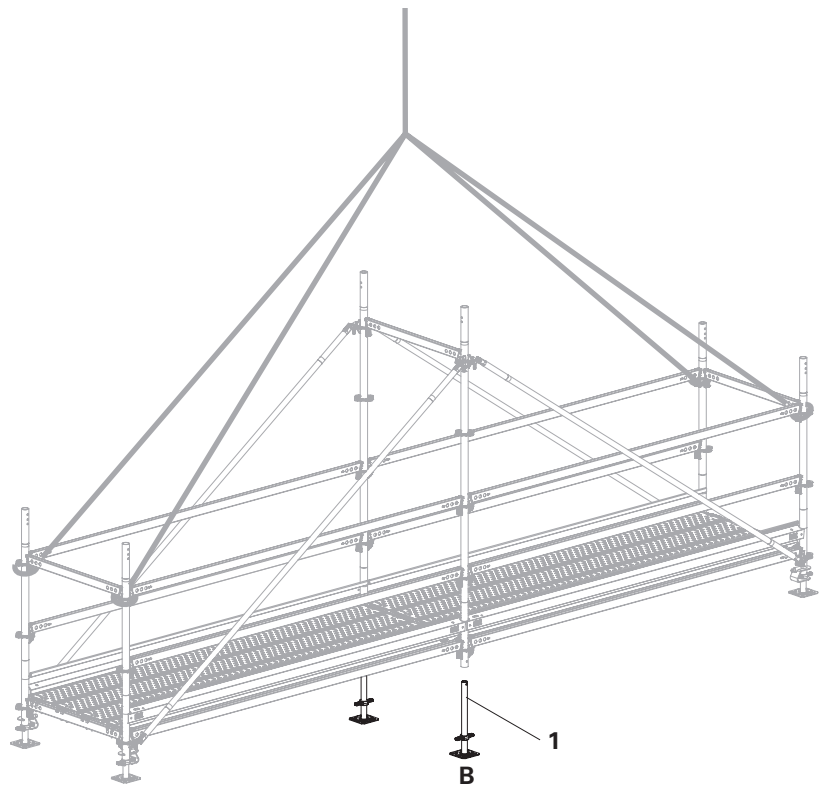

Fig. A2.03
2. Check that the base spindles **(1)** of the centre frame columns **(B)** (Fig. A2.03) or **(B + C)** (Fig. A2.04) have come to a stop on the assembly surface. Otherwise loosen the base spindles by hand and set them down.